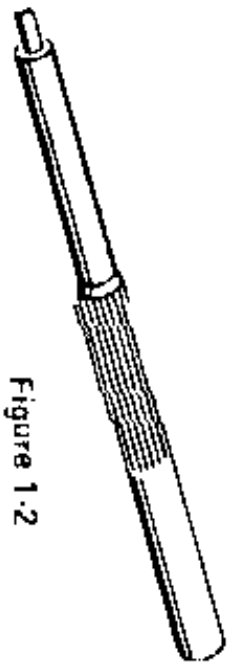

Figure 1-2
- 1) Refer to Figure 1-2 and insert the metal blade into the small end of the nut starter. Use this tool to adjust the controls in the following steps.